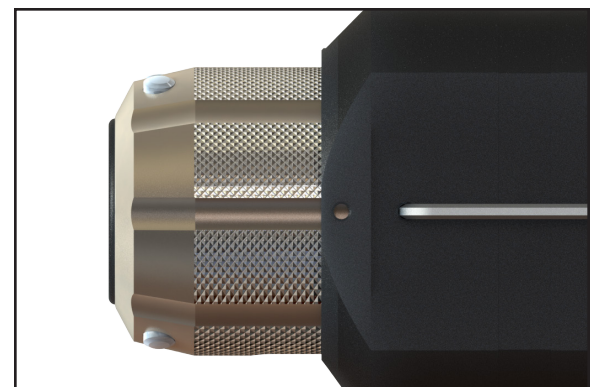

Figure 8: Cap Visible in Set Screw Hole
13. When the cap is tight, look into the set screw hole. Only the nickel plated cap should be visible, as shown in Figure 8. If the cap is not visible, remove it and return to Step 8.